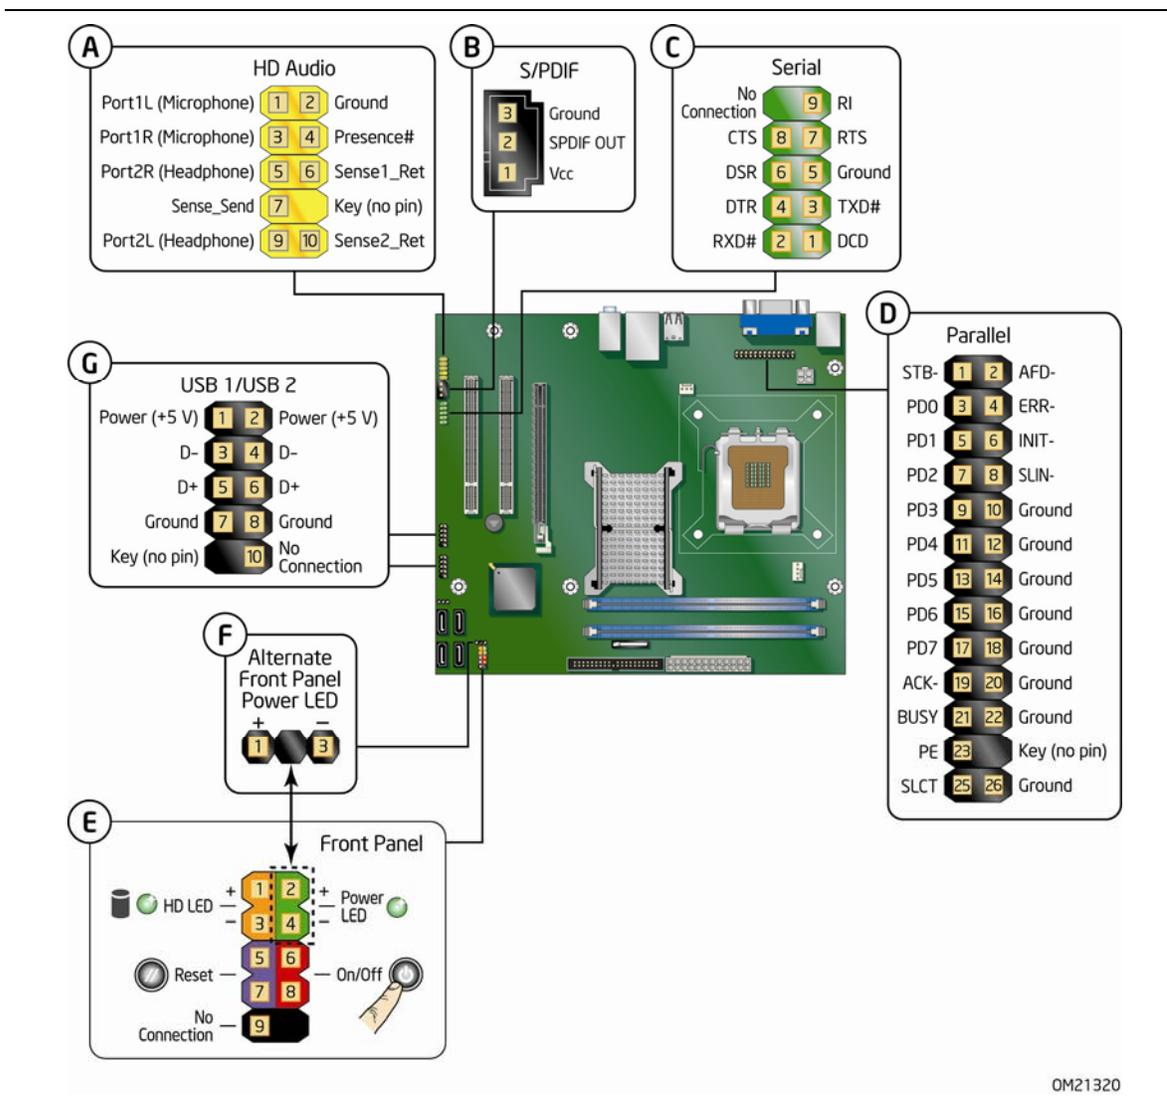

Figure 20. Internal Headers and Connectors
Before connecting cables to the internal headers and connectors, observe the precautions in “Before You Begin” on page 25. Figure 20 shows the location of the internal headers and connectors for Intel Desktop Board DG41RQ.
The front panel audio header shown in Figure 20, A on page 42 supports both High Definition (HD) Audio and AC'97 Audio. Table 5 shows the pin assignments and signal names for HD Audio and Table 6 shows the pin assignments and signal names for AC'97 Audio.